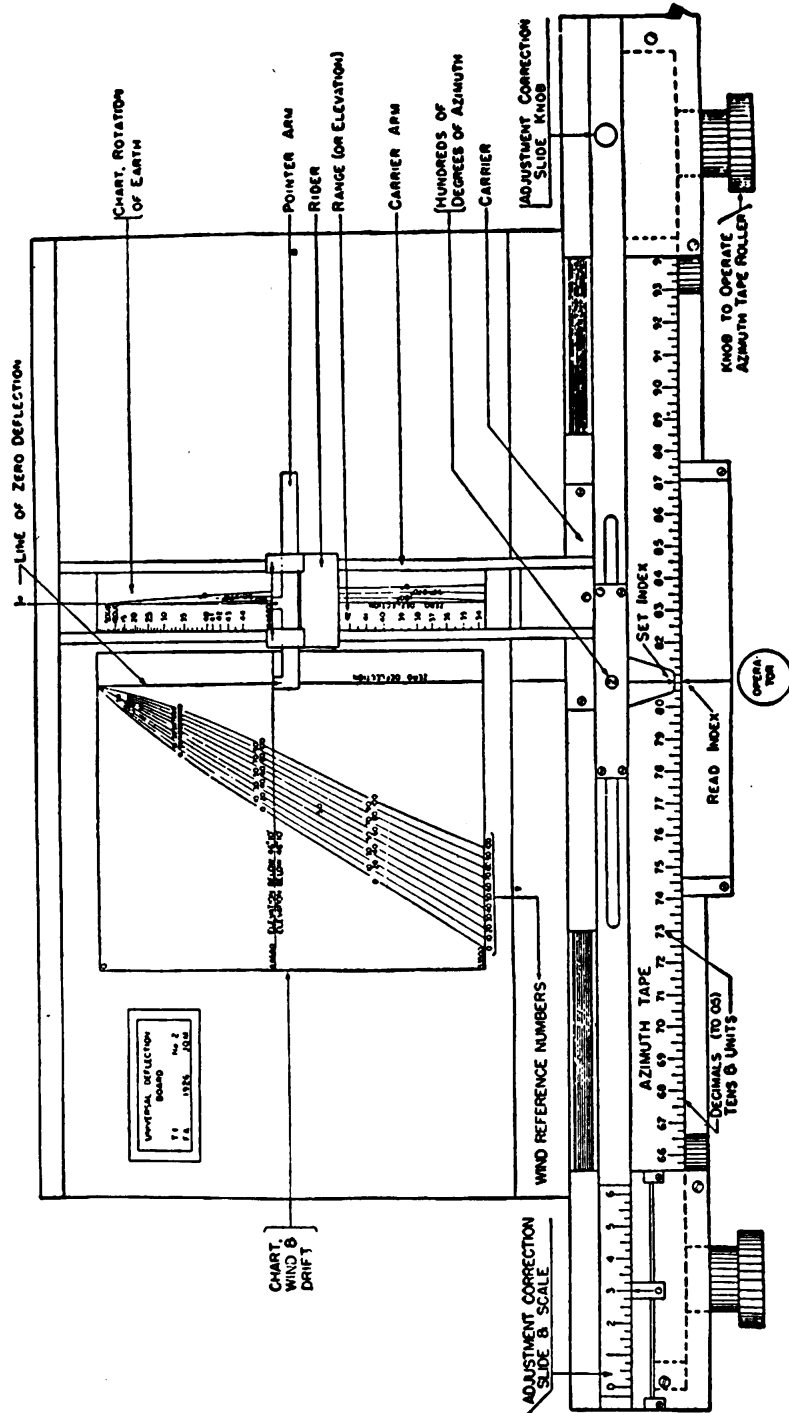

FIGURE 54.—Universal deflection board.
c. Universal deflection board.—*Q.* Point out and state the purpose of each of the parts shown in figure 54. *A.* See figure 54.
(1) The plotter having announced the approximate range to the target and whether moving from right to left or left to right, wind as much of the azimuth tape as possible on the roller on the side toward which the target is moving.
(2) Set the pointer arm at the corrected range to the set-forward point.
(3) Set the rider (for the rotational correction) at the curve corresponding to the approximate azimuth of the set-forward point.
(4) The wind-and-drift curve to be used is determined by the deflection wind component obtained from the wind-component indicator. With the adjustment correction scale at zero, move the carrier, with arm, until the wind-and-drift correction pointer is brought to the proper wind-and-drift curve.
(5) Thereafter, keep the pointer arm set at the proper elevation, the rider on the proper rotational curve, and the pointer on the proper wind-and-drift curve.
(6) Set the slide to indicate the hundreds of degrees azimuth of the set-forward point.
(7) Move the tape so that the azimuth of the set-forward point called out by the plotter is set opposite the set index.